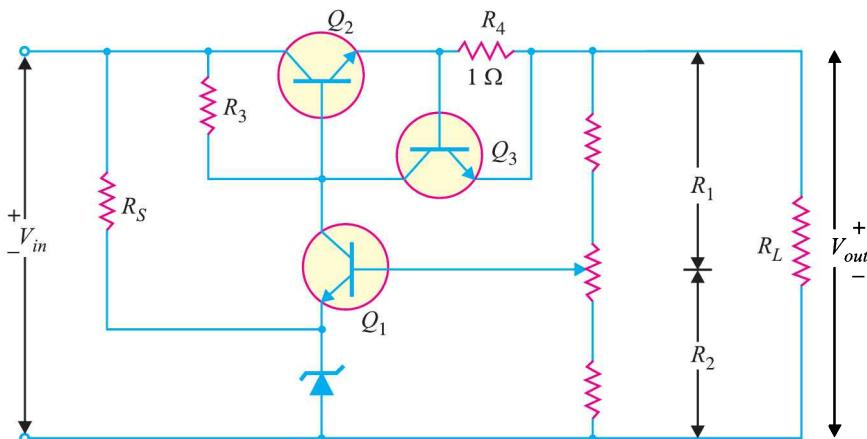

Fig. 17.18
The main drawback of any series regulator is that the pass transistor can be destroyed by excessive load current if the load is accidentally shorted. To avoid such an eventuality, a current limiting circuit is added to a series regulator as shown in Fig. 17.18. A current limiting circuit consists of a transistor ( $Q_3$ ) and a series resistor ( $R_4$ ) that is connected between base and emitter terminals.
**Example 17.16.** In the series feedback voltage regulator shown in Fig. 17.18,  $R_1 = 2 \text{ k}\Omega$ ,  $R_2 = 1 \text{ k}\Omega$ ,  $V_Z = 6 \text{ V}$  and  $V_{BE} = 0.7 \text{ V}$ . What is the regulated output voltage?
**Example 17.17.** In the series feedback regulator circuit shown in Fig. 17.18,  $R_1 = 30 \text{ k}\Omega$  and  $R_2 = 10 \text{ k}\Omega$ . What is the closed loop voltage gain?